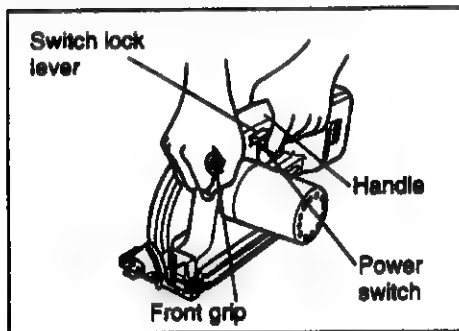

Fig. 4
Hold Wood Saw with both hands, as shown in Fig. 4.
- Always hold the handle with one hand and the front grip with the other. (See Fig. 4, page 12) Maintain a firm grip and depress the switch fully.